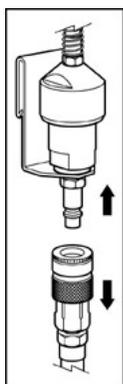

Fig. 23
1. Ensure the 3M supplied air hose is connected to the air control valve or low pressure connector. To connect, pull back on the socket end of the supplied air hose while inserting it onto the plug end of the air control device. (Fig. 23)